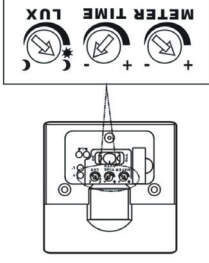

Fig. 10 Silver Label
5. To reduce the detection area, user can put on the silver label which is supplied with this instruction manual to cover the lens. (See Fig.10)
This is the silver label which can be used to cover the lens as (Fig.10) shown.